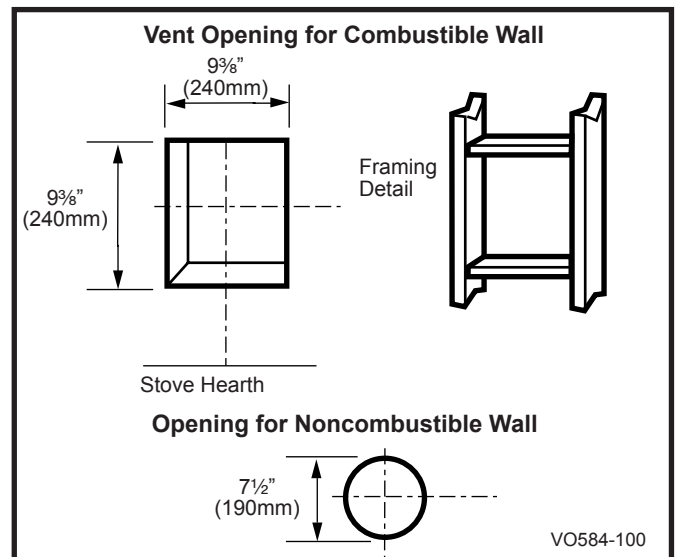

Fig. 13 Locate vent opening on wall.
Locate vent opening on the wall. It may be necessary to first position the stove and measure to obtain hole location. Depending on whether the wall is combustible or noncombustible, cut opening to size. (Fig. 13)
Combustible Walls: (Fig. 13) Cut a 9³/₈"H x 9³/₈"W (240 x 240 mm) hole through the exterior wall and frame as shown.
Noncombustible Walls: (Fig. 13) Hole opening must be 7¹/₂" (190 mm) in diameter.
1. Establish vent hole through the wall. (Fig. 13)